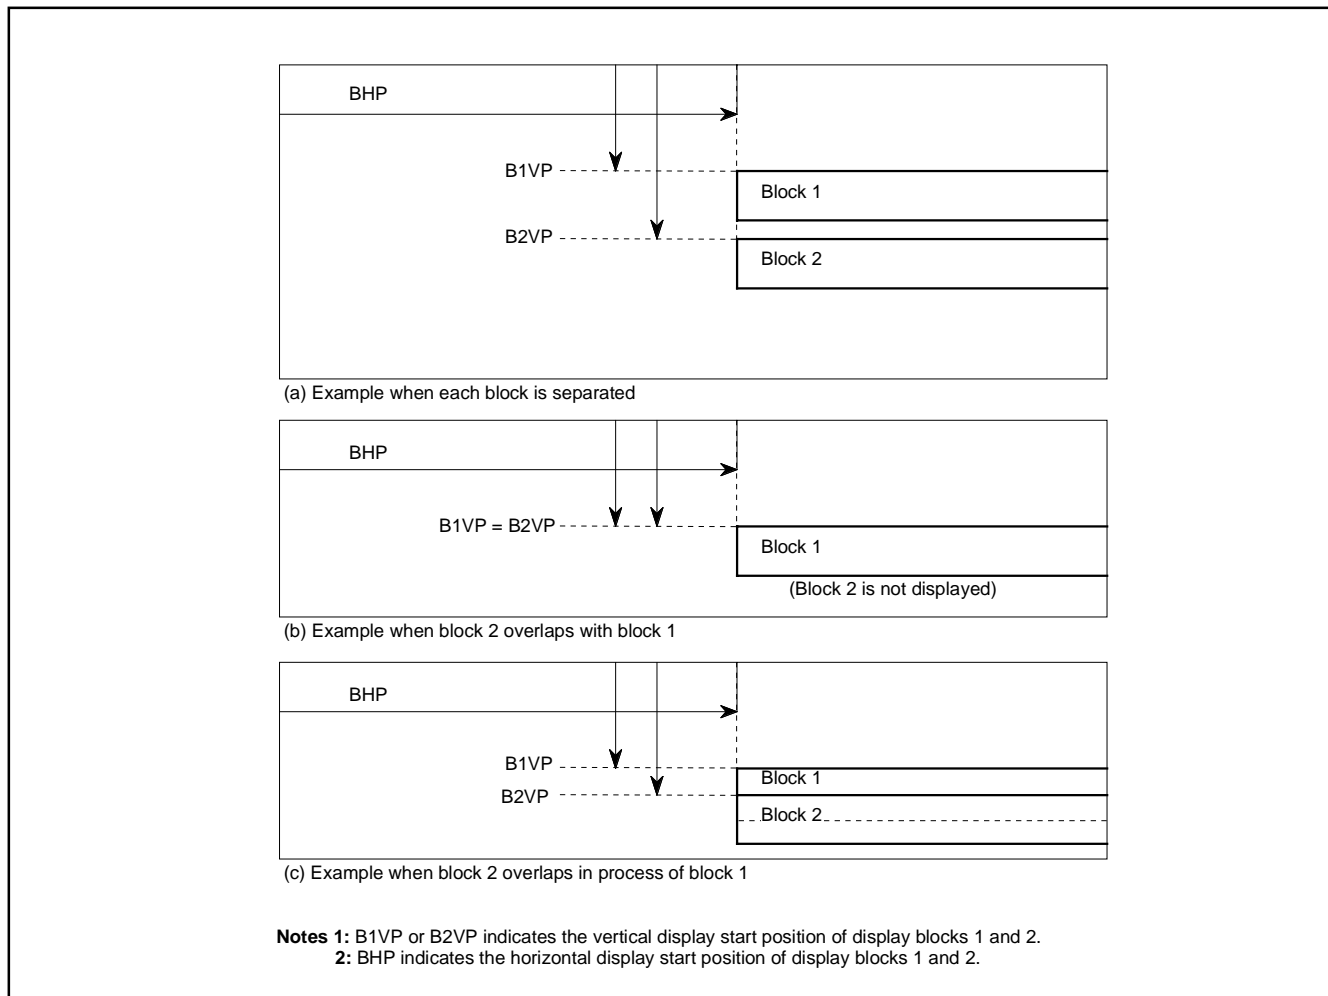

Fig. 8.10.9 Display Position
- When the display position of block 1 is overlapped with block 2 (Figure 8.10.9 (b)), block 1 is displayed on the front.
- When another block display position appears while one block is displayed (Figure 8.10.9 (c)), the block with a larger set value as the vertical display start position is displayed.